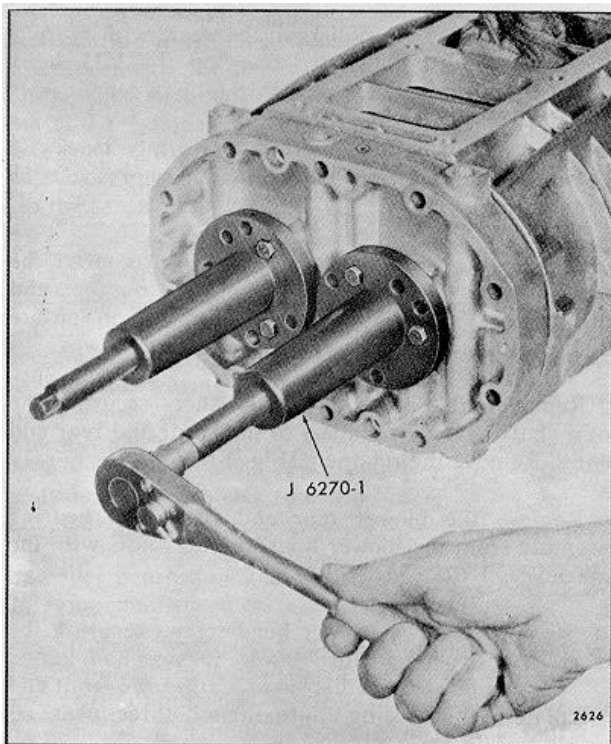

FIG. 9 - Removing Blower End Plate and Bearings from Housing and Rotors
- d. Turn the two puller screws uniformly clockwise and withdraw the end plate and bearings from the blower housing and rotors as shown in Fig. 9.